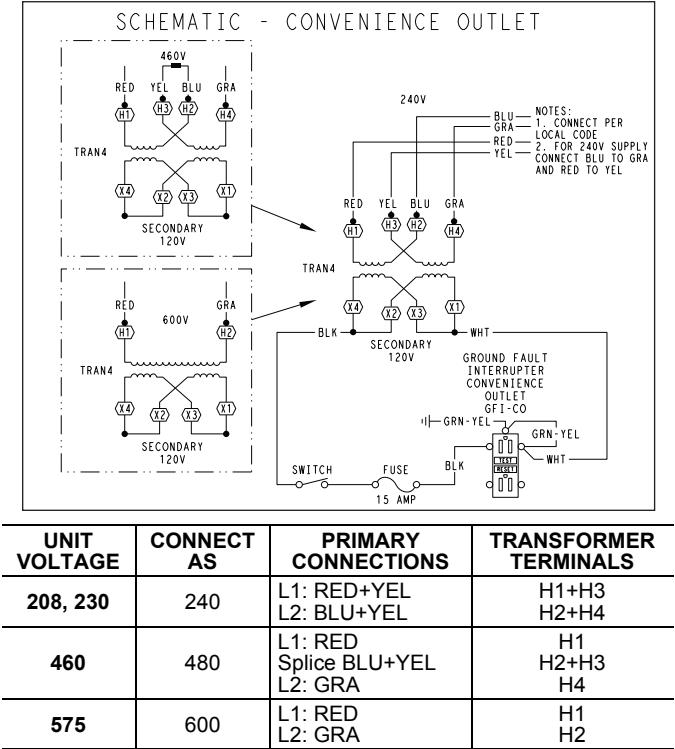

Fig. 32 — Powered Convenience Outlet Wiring
The primary leads to the convenience outlet transformer are not factory-connected. Selection of primary power source is a customer option. If local codes permit, the transformer primary leads can be connected at the line-side terminals on the unit-mounted non-fused disconnect; this will provide service power to the unit when the unit disconnect switch is open. Other connection methods will result in the convenience outlet circuit being de-energized when the unit disconnect switch is open. See Fig. 32. On a unit without a unit-mounted disconnect, connect the source leads to the main terminal block (TB1).
- 2. Install power lines to terminal connections as shown in Fig. 32.